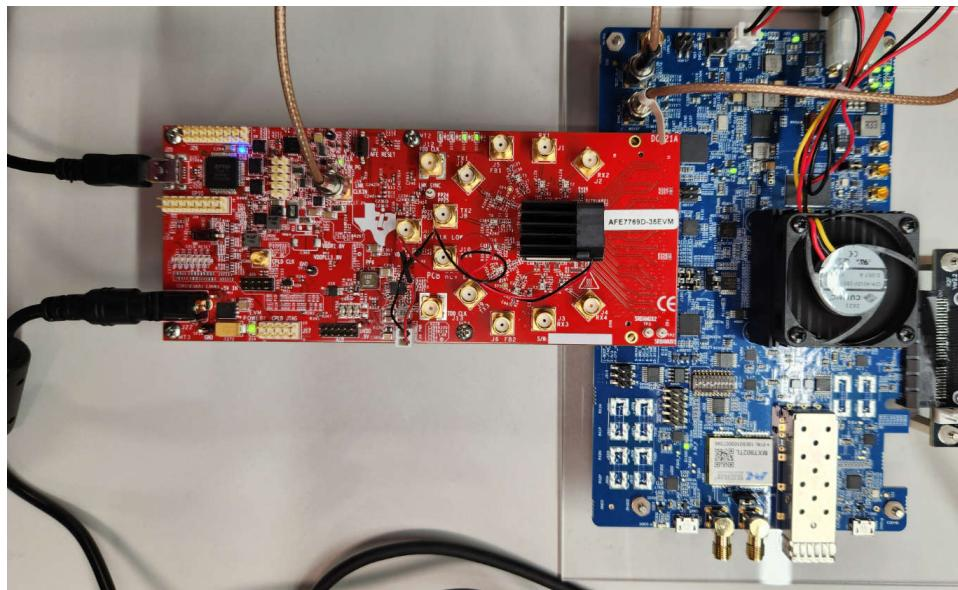

Figure 3-2. Hardware Setup and Connections AFE7769DEVM-PC802
4. Connect the 122.88MHz reference clock (SYNC_CLOCK) from the PC802 (J1106) to the LMK_CLKIN (J19) of the AFE7769DEVM, as shown in Figure 3-2.